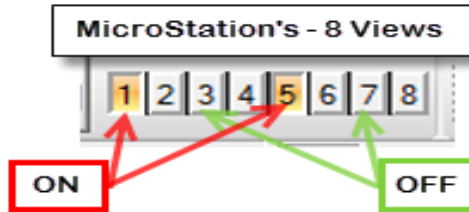

Figure 58 - View Toggle
**MicroStation** has eight (8) view windows available to the designer. Each window can have different levels turned on and off. Saved views can be used for level and reference managing, and it can save time. It is a users preference to use or not. All eight (8) views can be turned on or off by clicking on the View Toggle for each view (Figure 58).